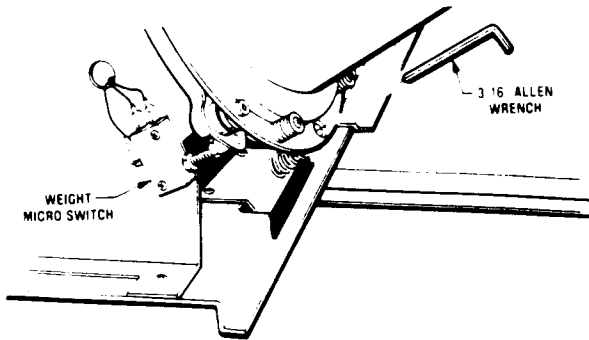

Figure 4-13
- 2) Turn the set screw, centered under the hopper bowl, clockwise with a 3/16" allen wrench until the microswitch plunger is in the up position. See Figure 4-13.